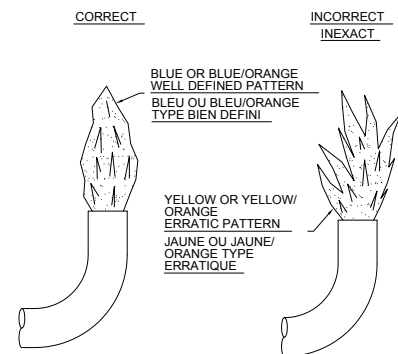

Figure 14
- If the burner flame is yellow and has an erratic pattern, shut unit down and contact a qualified service agency. Do not continue operating unit with improper burner flame. (See Figure 14 for correct and incorrect burner flame appearance.)